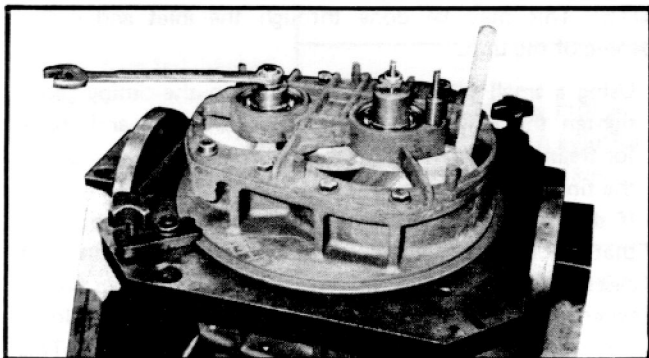

Figure 4-1 Proper Method for Blocking Rotors
1. Place measuring unit in wooden cradle as illustrated in Figure 4-1. Orient measuring unit with front end cover (item 4) upward.
2. Remove the two bearing retainer caps (items 46 or 48), screws (item 8) and bearings (item 6).